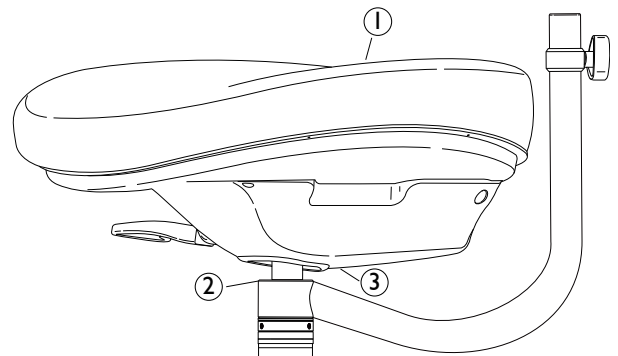

Figure 9: Installing Seat Cushion Assembly - SA5550 and SA555 I
8 Install the Seat Cushion Assembly (Figure 9, item 1).
NOTE: Ensure that there is a gap between the top of the Support Pole Hub (Figure 9, item 2) and the Seat Mechanism (Figure 9, item 3).